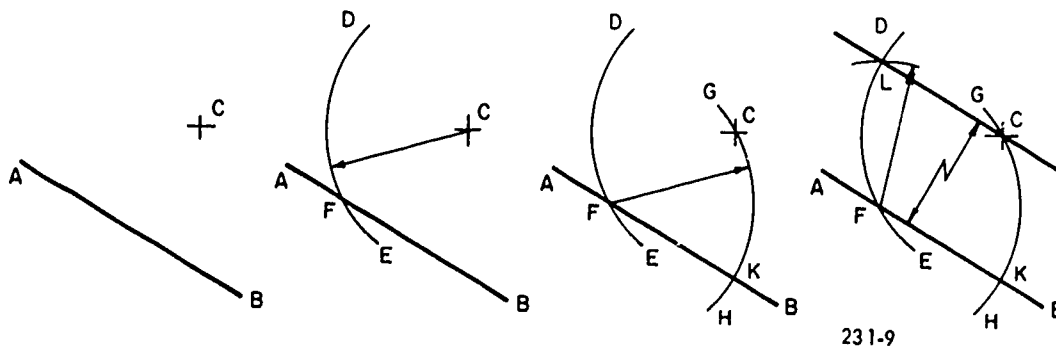

Figure 4-9. Drawing lines parallel to a given point.
**Given a Line.** Given line AB and the required point C, as shown in figure 4-9:
- (1) With C as the center and any convenient radius, strike an arc DE to intersect line AB at point F.
- (2) With F as the center using the same radius, draw an arc GH to intersect line AB at K.
- (3) With CK as a radius and F as the center, strike an arc intersecting arc DE at L.
- (4) Through points L and C draw the required parallel line.